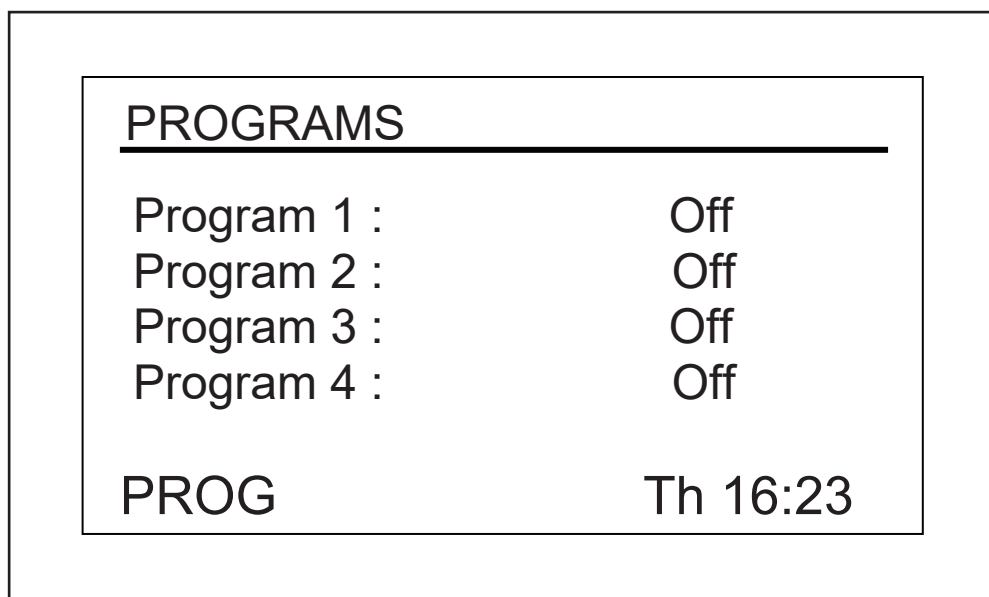

Fig. 9-10: Programs screen
To enter the programming mode, use the control knob to select the *PROG* screen (see Fig. 9-10 on p. 60). At this point, you can *Run* a program, *Edit* a program, generate a *New* program or turn a program *Off*. *Off* is the default mode.
1. Use the control knob to highlight the mode of Program 1 (in our sample screen, (see Fig. 9-10 on p. 60), it is *Off*), then click the knob in.